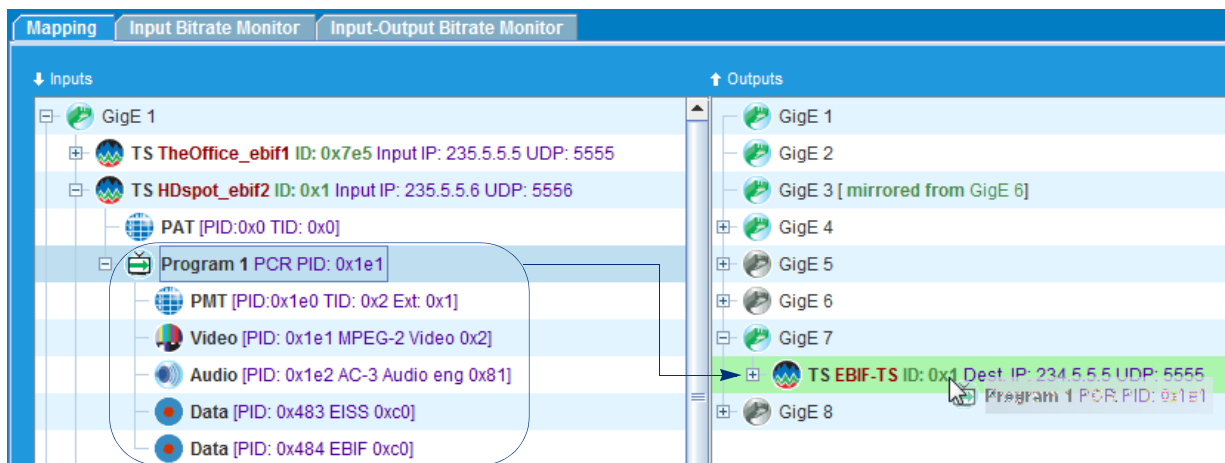

Figure 208. Input program (with ETV data) groomed to oTS
3. Use the **Drag and Drop Grooming** feature to groom a desired input program to the desired output transport stream (oTS), as seen in Figure 208, for example.
3. Use the Drag and Drop Grooming feature to groom a desired input program to the desired output transport stream (oTS), as seen in Figure 208 on page 225, for example.